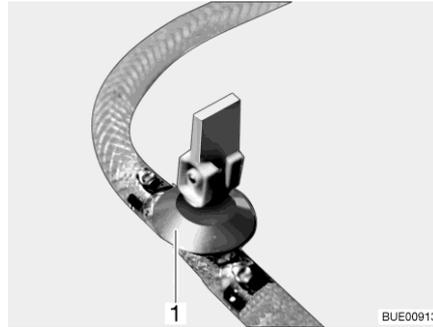
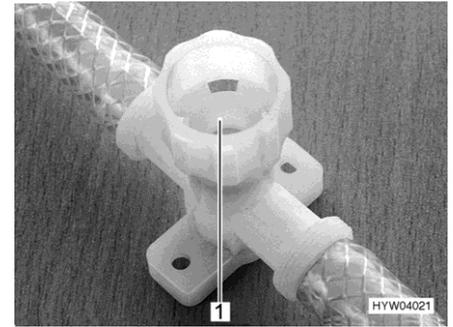

Fig. 281 Drain cock (with rocking lever)
Fig. 282 Drain cock (with twist cap)
- Open all drain cocks. To do this, position the drain cock's rocking lever (Fig. 281,1) vertically or turn the drain cock's cap (Fig. 282,1) in an anti-clockwise direction.